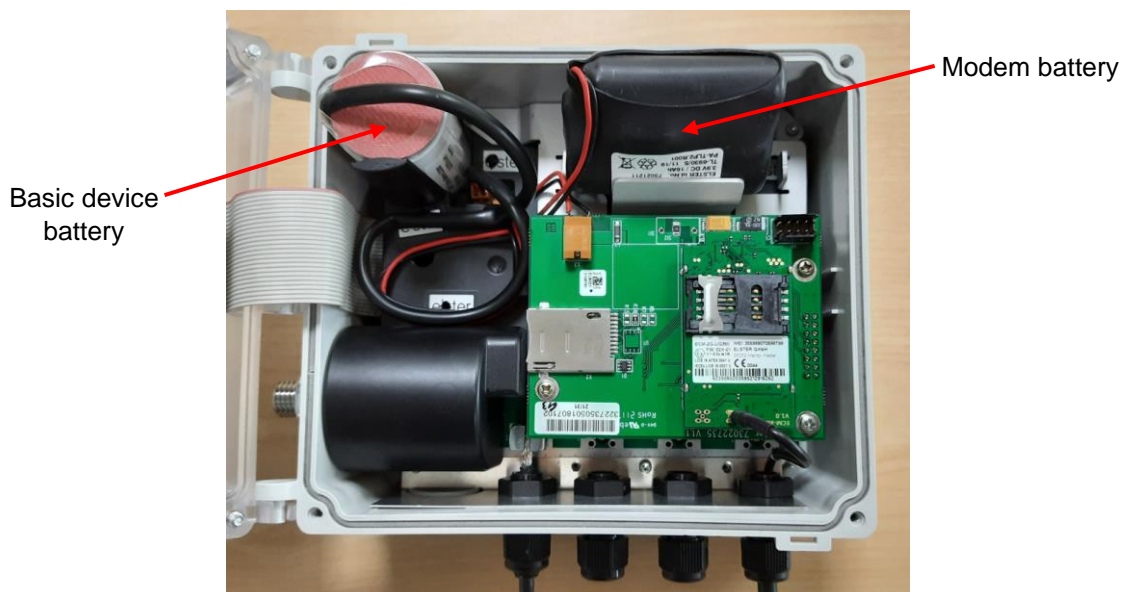
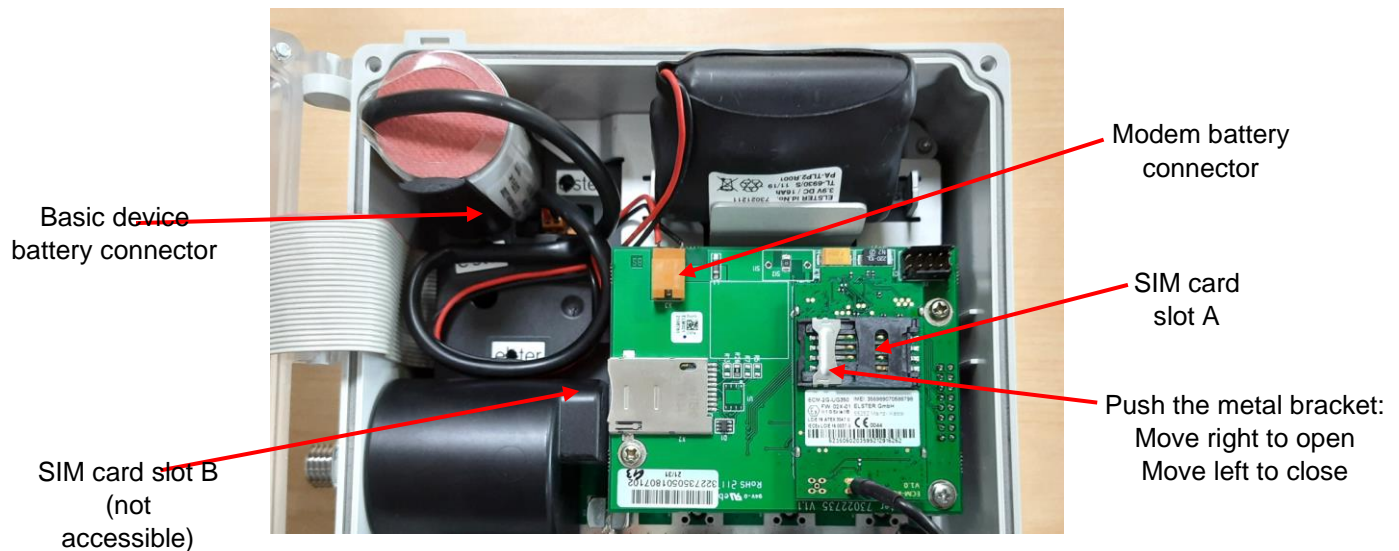

Fig. 23: EK205-M (lid opened) with modem and basic device battery installed
Fig. 24: Battery and SIM connectors
- Disconnect the modem and basic device battery if already connected. (see Fig. 23 and Fig. 24)
- Push the metal bracket in the SIM card slot back halfway (towards right in Fig. 24), and flip open the cover (see Fig. 25).